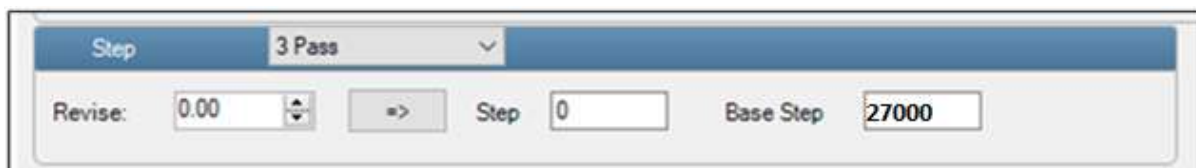

Fig 51: The Step Calibration Parameters
Step 1: Select the desired pass from the list and click on the **Print** button (Refer to Fig 51).
Step 2: Feed the correction value in the **Revise** field (the correction value up to two decimal places) (Refer to Fig 51).
Step 3: Click on the => icon (Refer to Fig 51) on the Step Calibration window. The correction value result will be reflected in the **Step** field (Refer to Fig 51). The same step value will also be displayed in the **Steps** field on the **Quick Access Toolbar**.